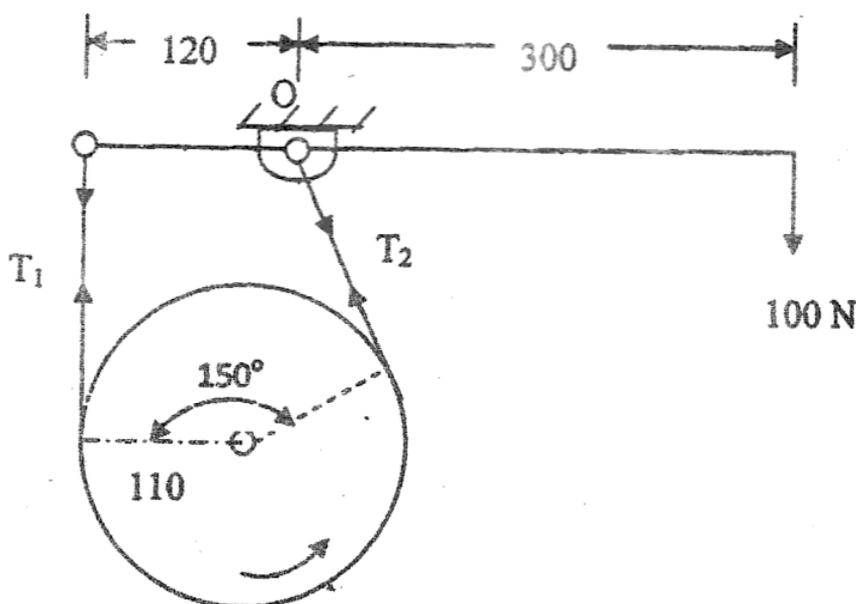

Fig. 3
- (c) Fig. 3 shows a simple band brake which is applied to a shaft carrying a flywheel of mass 300 kg and radius of gyration 280 mm. The drum diameter is 220 mm and the shaft speed 240 rpm. The coefficient of friction is 0.3. Find the brake torque when a force of 100 N is applied at the lower end. Also determine the number of turns of the flywheel and time taken by it before coming to rest. All dimensions are in mm. (10)